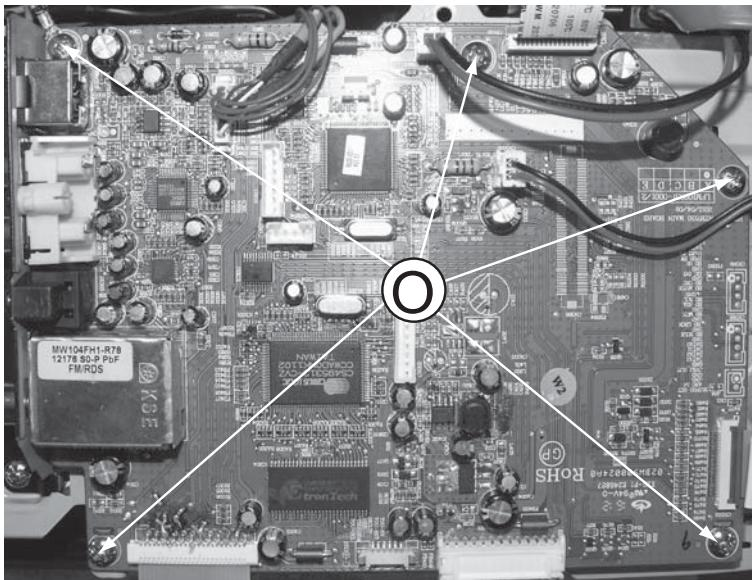

Figure 15
- 2) Loosen 5 screws "O" on the top of Main Board as shown in figure 15 to remove the Main Board.